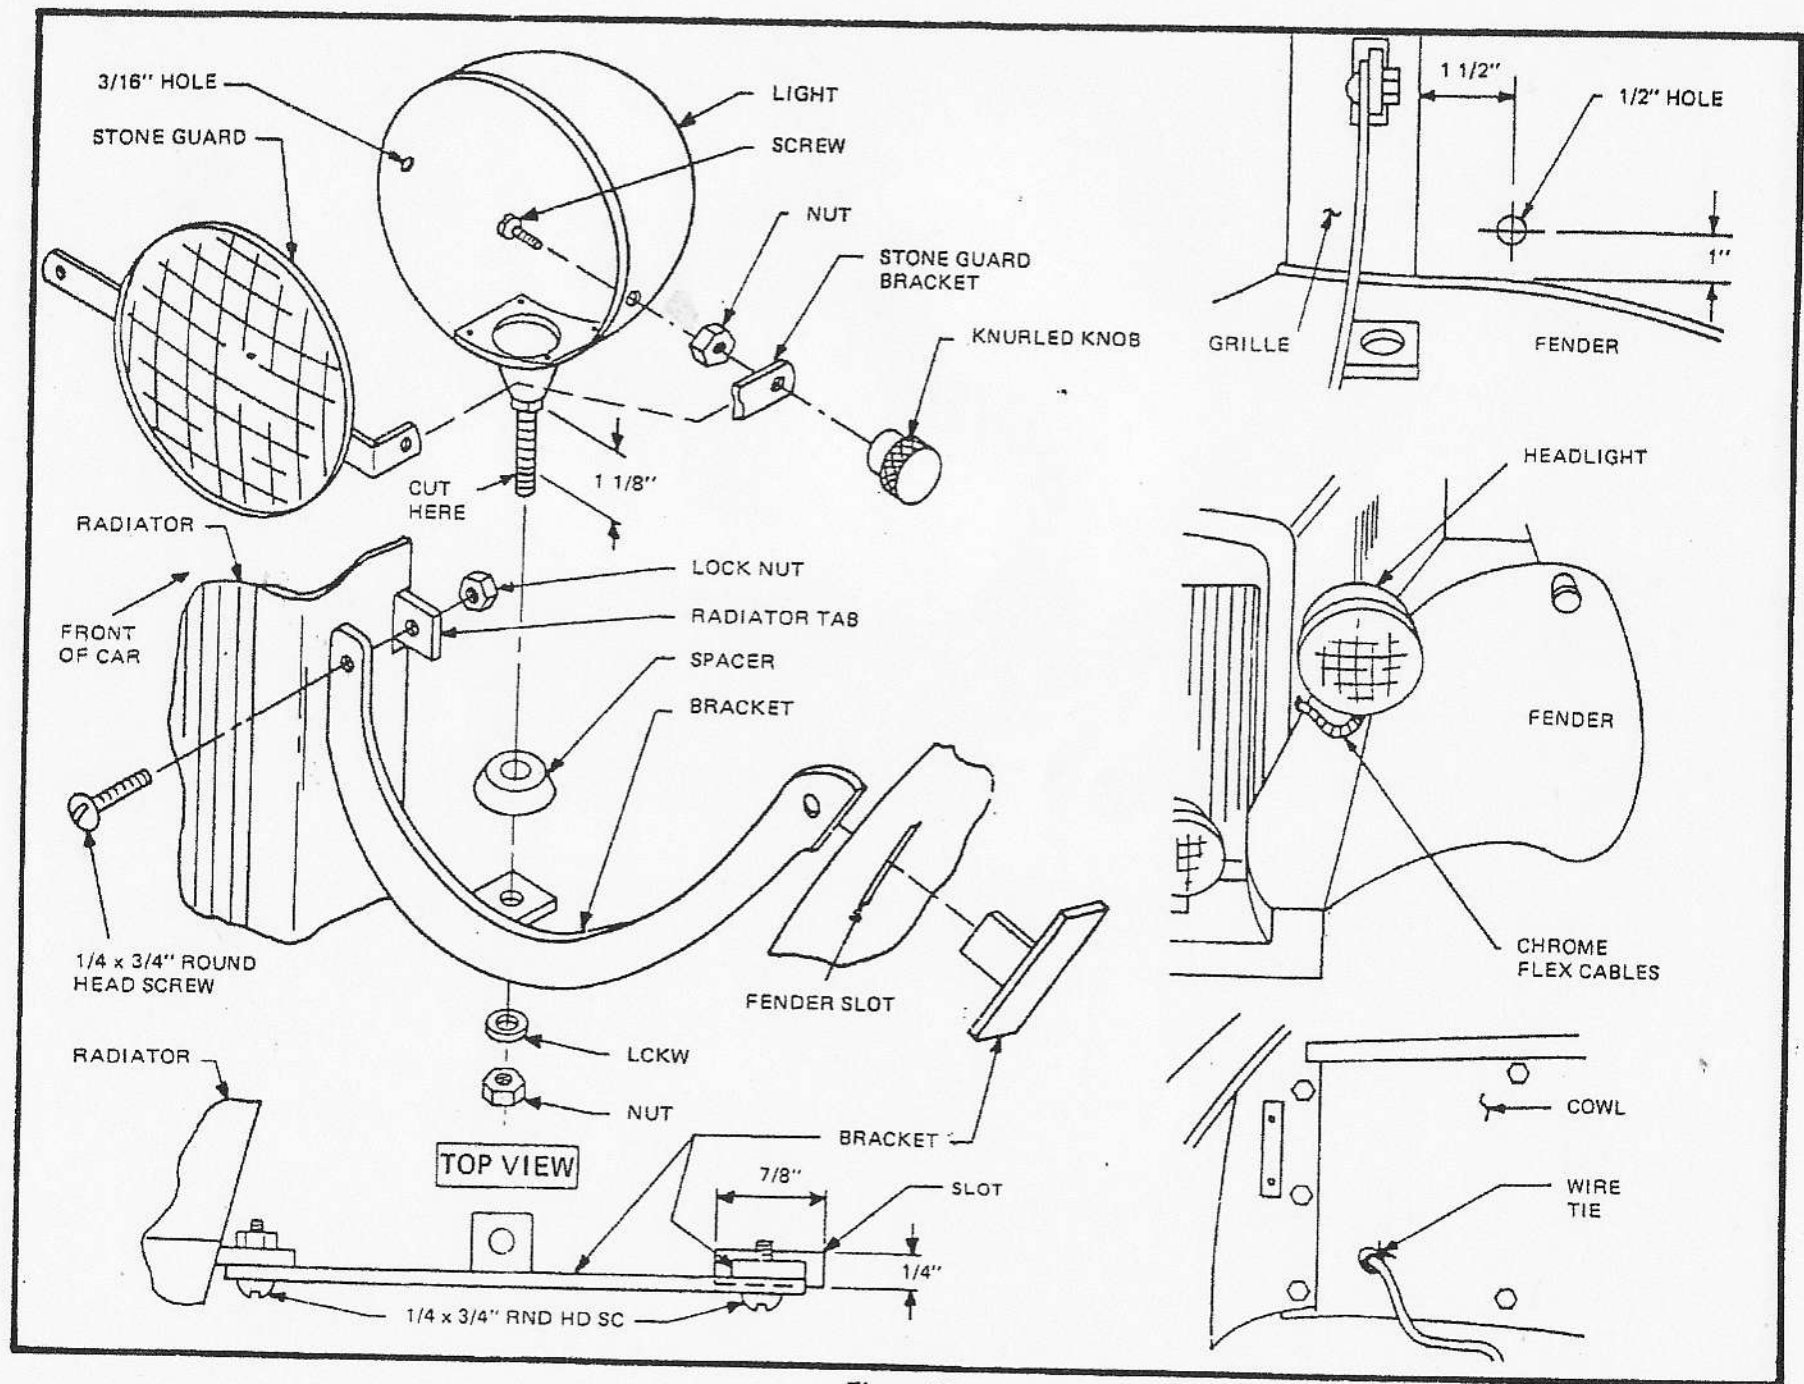

Figure 68
- ☐ Refer to Figure 68 and exploded view for general construction. Position the main headlight brackets against the radiator shell and bolt to the brackets previously installed in the shell. (Head light mounting tab must face rearward.) Bolt with 1/4 x 3/4" round head machine screws with locknuts. Hand tighten. At this time make sure the fenders sit at the same height. Adjust them by propping with a length of 2 x 4. Mark the location where the bracket contacts the fender. Cut a slot 7/8 x 1/4" so the slot is adjacent to the rear surface of the bracket. Insert the small fender mounted headlight support from beneath the fender, and bolt to bracket, using 1/4 x 3/4" round head machine screw with lock nut. Tighten all bolts. From underneath the fenders, lay fiberglass matting over the bracket and saturate with resin.